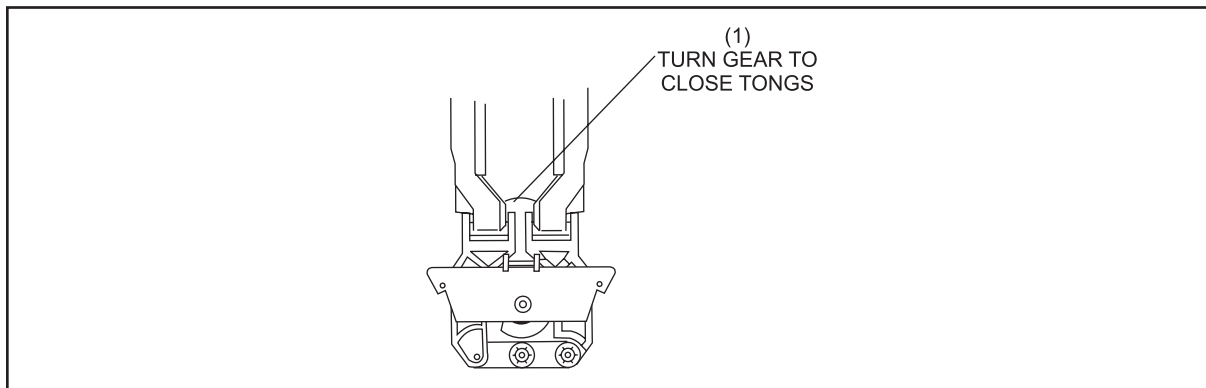

Figure 8-8. Spotting Tongs Completely Closed
- (1) SPOTTING TONGS PIN STATIONS 1, 4, 5, AND 6 (2) SPOTTING TONGS PIN STATIONS 2, 3, 7, 8, 9, AND 10
6. Turn the gear on the bottom of the spotting tong assembly until the tongs are completely closed. Refer to *Figure 8-8*.